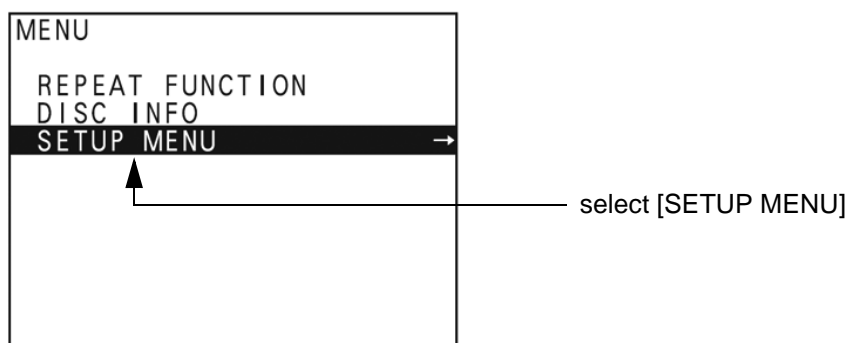

Figure 3-13 “Main Menu” - [SETUP MENU] highlighted
- 3.) The “Main Menu” appears on the LCD screen of the DVD recorder, see: Figure 3-13 below.